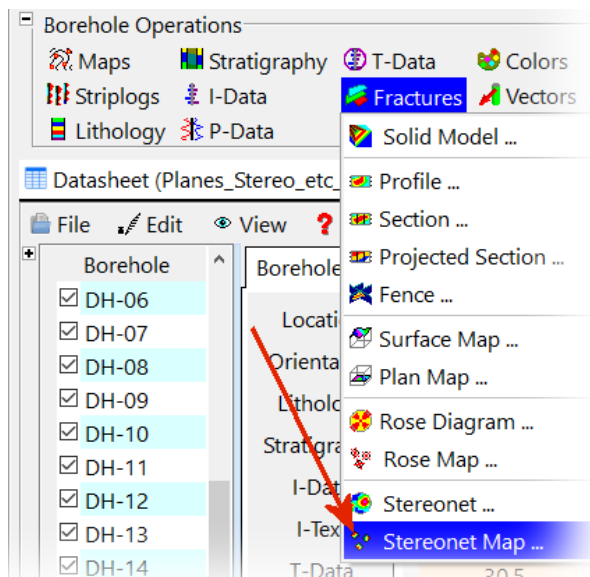

Figure 14
- Select the Borehole Operations / Fractures / Stereonet Map program (Figure 14).